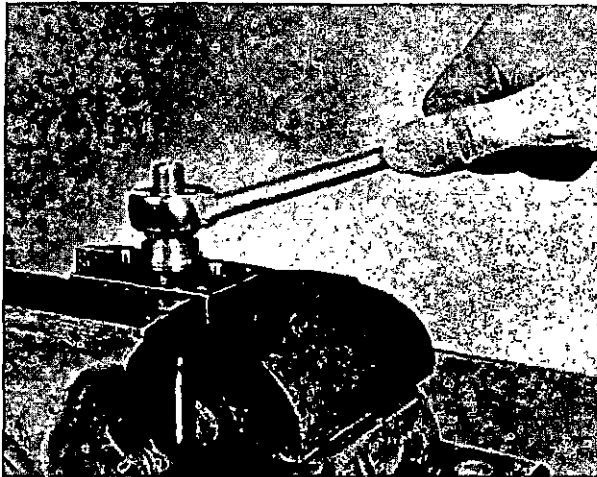

Fig. 16 Dismantling barrel/delivery valve assembly.
16. Remove the circlip, baffle sleeve and 'O' ring from pump barrel. Remove 'O' ring, nylon ring and phasing shims from delivery valve flanged bush. Using mounting device 1 682 310 031 and ring spanner 1 687 950 525 (fig. 16) unscrew the connector from the flanged bush and remove the spring, delivery valve and washers.